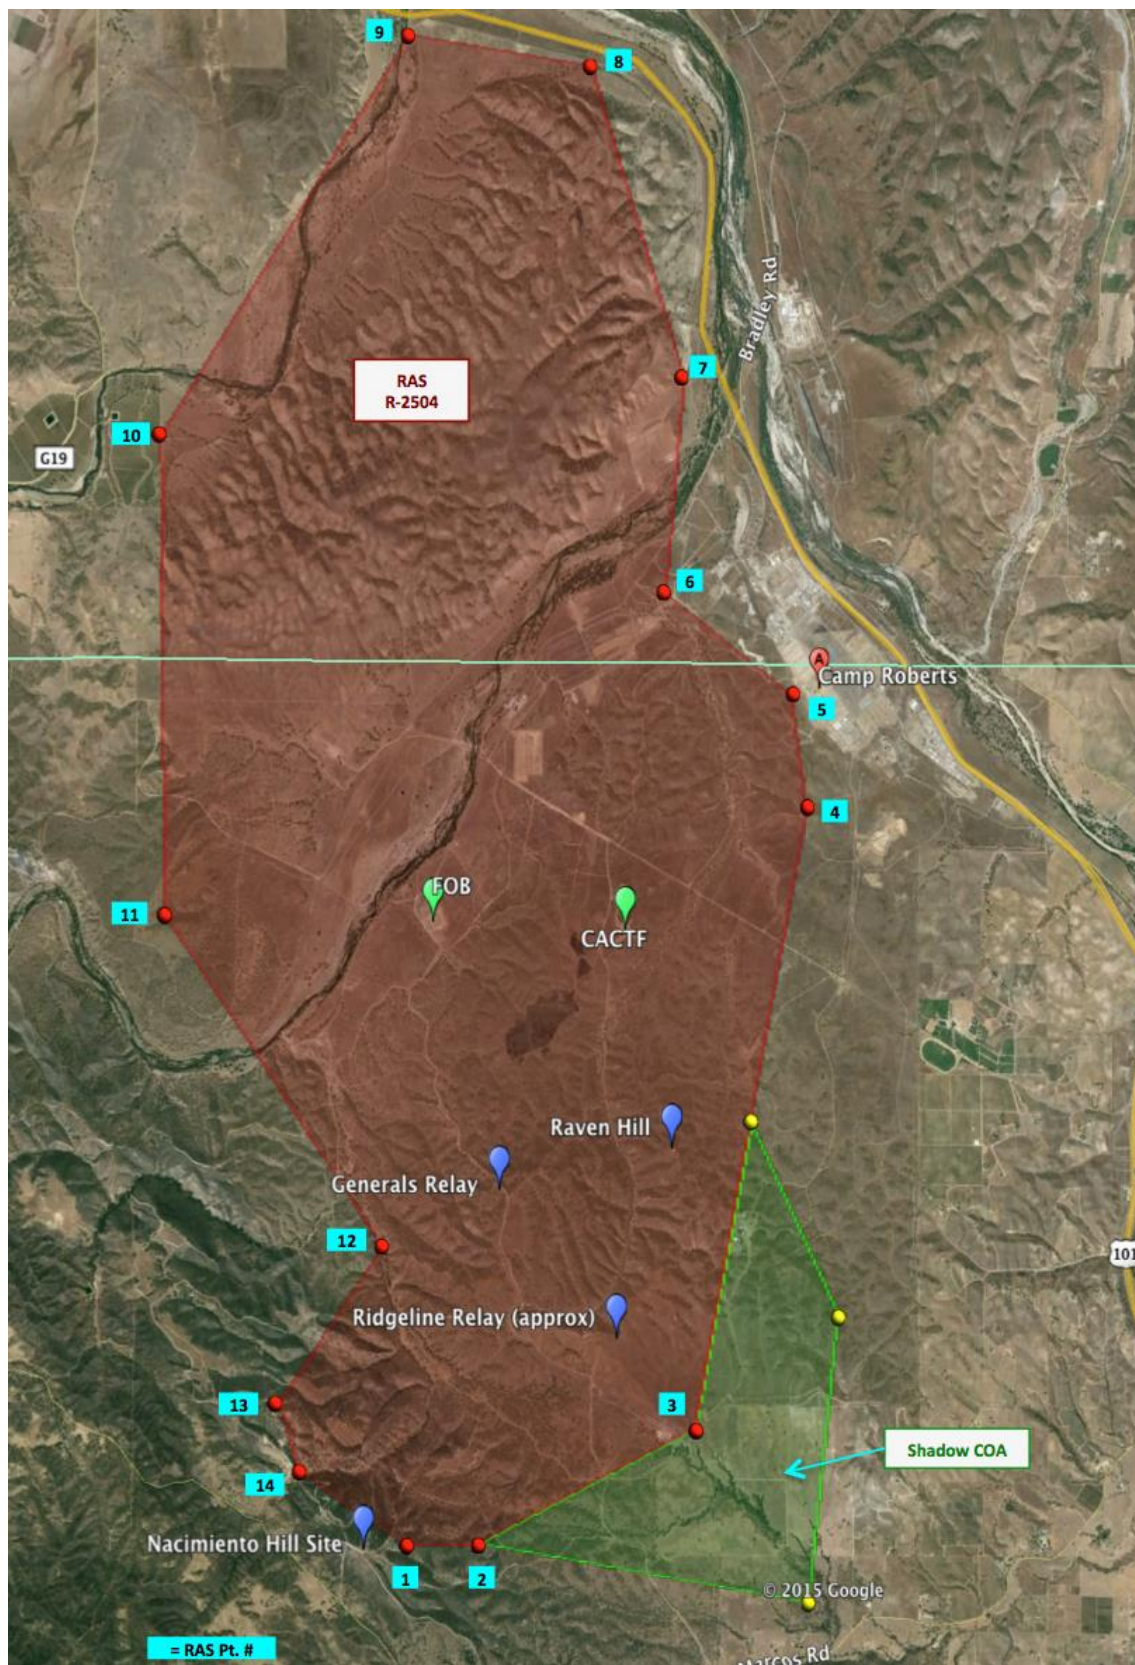

Figure 1. R-2504 Restricted Air Space (RAS) and Shadow UAS COA (2015-WSA-59).
**A. AIRSPACE.** The NPS FX operations airspace (figure 1) lies within R-2504 (sfc to 14,999' MSL). At no time will any participants operate an Unmanned Aircraft (UA) outside of the boundaries of R-2504 unless they are in receipt of an FAA Certificate of Authorization (COA) for such flight activities. Doing so without prior FAA approval is a violation. Each section of airspace is identified as follows:
**B. R-2504.** The Camp Roberts' restricted airspace R-2504 was amended by the FAA on 7 Jun 2010. This airspace revision created two sub areas (A & B), which together occupy the same exact lateral dimensions. The R-2504A extending from the surface to but not including 6,000 feet mean sea level (MSL) and the R-2504B, extending from 6,000 MSL to 14,999 feet MSL. Together, R-2504A and R-2504B occupy the same lateral and vertical dimensions of the original R-2504. This action was created to allow for greater access to airspace by both Visual Flight Rules (VFR) and Instrument Flight Rules (IFR) aircraft when the RAS is active. The R-2504 coordinates are listed in Table 1 and depicted in Fig 1.